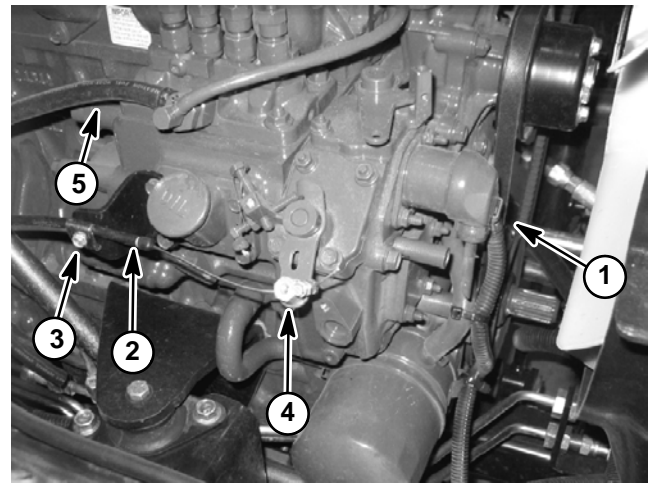
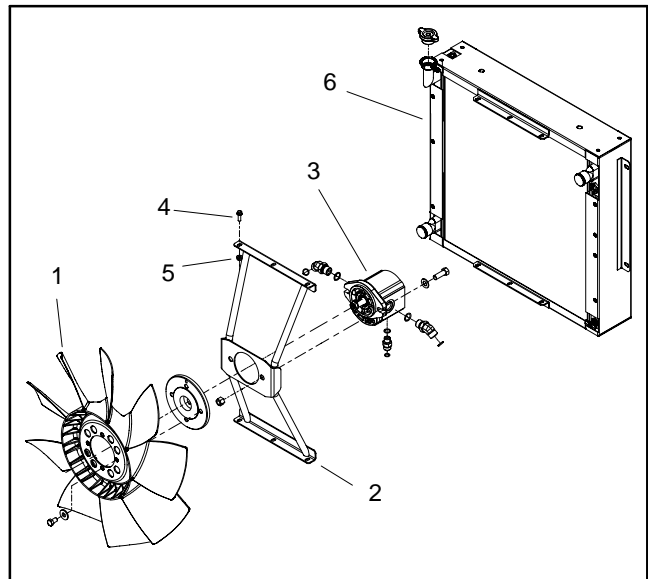

Figure 11
Figure 13
- A. The engine run solenoid (Fig. 11).
8. Disconnect fuel supply hose from injection pump (Fig. 11). Cap fuel hose and injector pump fuel inlet to prevent contamination.
9. Remove throttle cable from engine (Fig. 11):
11. Remove fan motor and fan assembly (Fig. 13).
C. Remove six (6) cap screws and flange nuts that secure fan motor bracket to radiator.
6. Install fan motor and fan assembly (Fig. 13).
B. Secure fan motor bracket to radiator with six (6) cap screws and flange nuts.
9. Connect throttle cable to engine (Fig. 11):
10. Remove caps from fuel hose and injector pump fuel inlet that were placed during engine removal to prevent contamination. Connect fuel supply hose to injection pump (Fig. 11).